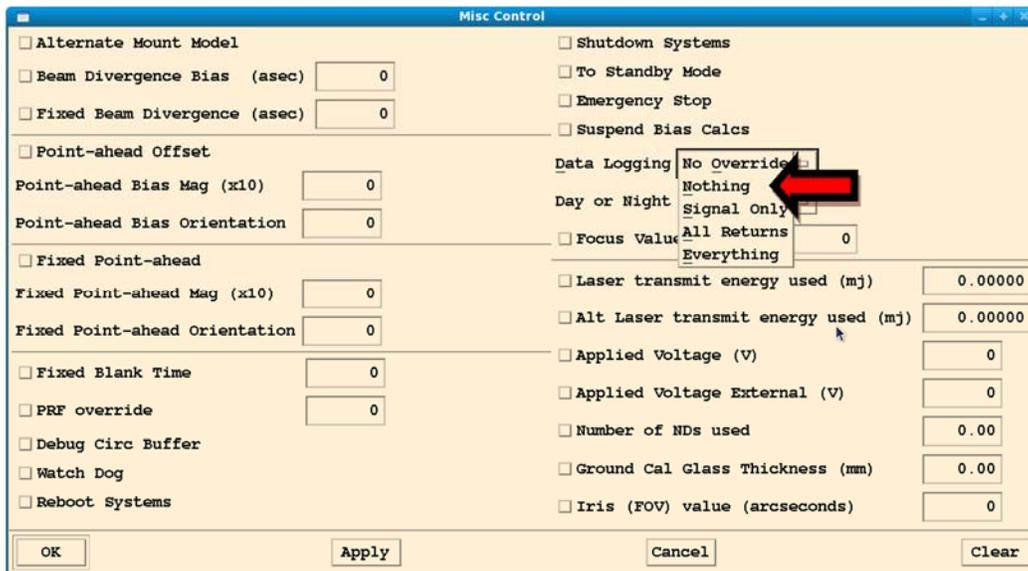

Figure 6-3: Misc Control window
7. Open the **Control** => **Misc** menu – From the Data Logging pull down menu, set Nothing (Figure 6-3).
- d. Adjust the ND value under the Misc Control menu as determined previously (Figure 6-3).